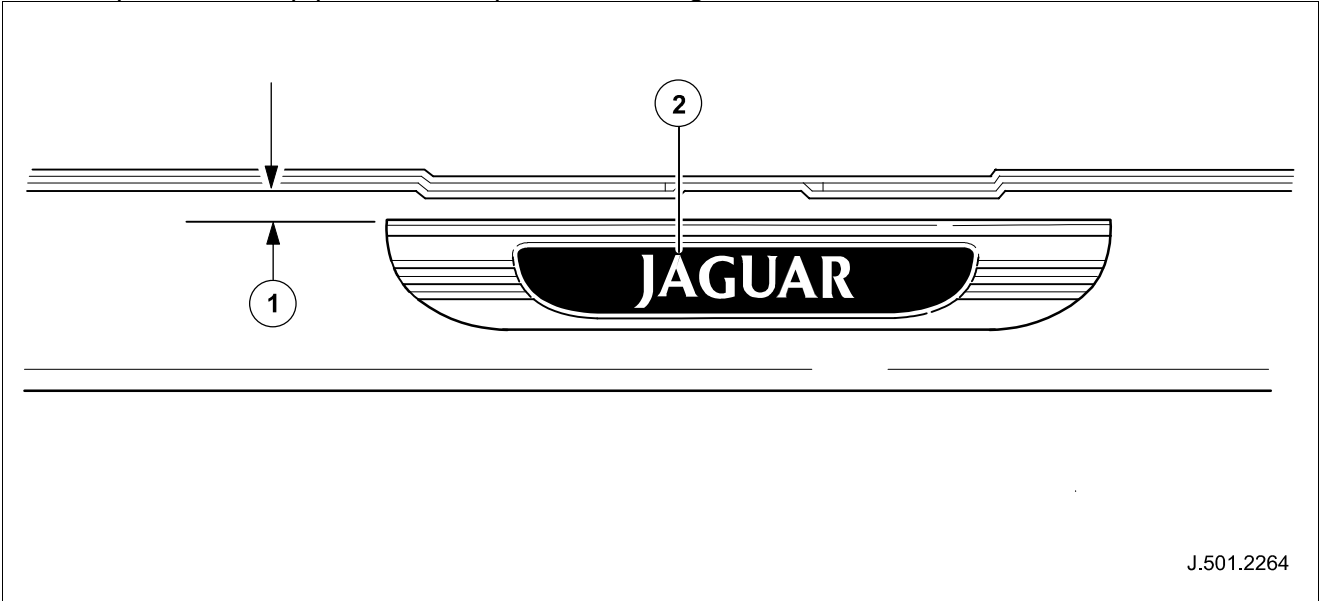

Fig. 3
- 20 Measure 10mm from the sill aperture flange across the sill. (See item 1, Fig. 3)
- 23 Using the new sill tread plate, align the first 'A' in Jaguar emblem with sill aperture flange rear edge and install tread plate to sill. (See item 2, Fig. 3)